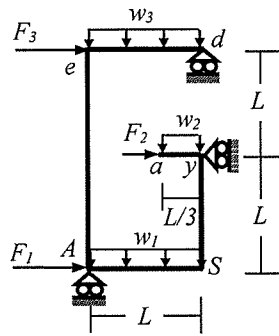

Fig. 1
- Fig. 1 shows frame *ASayed* with beams (*AS*, *ay*, *ed*) carrying loads $w_1 = w_2 = w_3 = (7 + 0.03R_0)$ k/ft. Use BNBC-1993 (for soil S_I at Dhaka) and BNBC-2020 (for soil S_A at Rangpur) to calculate the Elastic base shear (V_{be}) and seismic force (F_1 , F_2 and F_3) at each storey level.